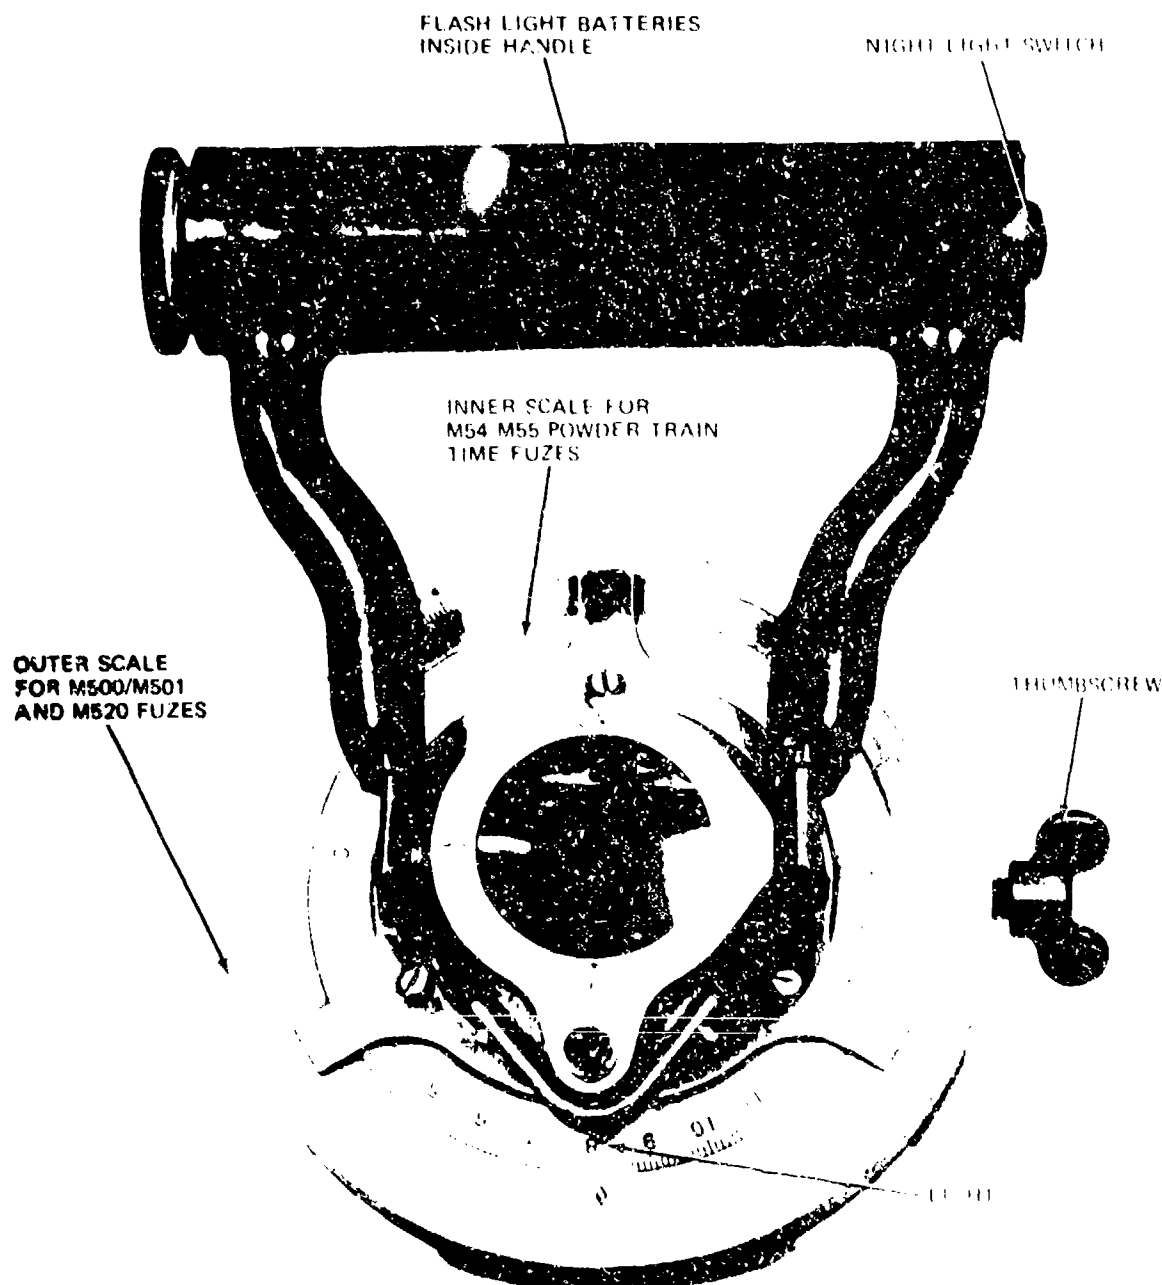

Figure 11-18. Fuze setter M26.
e. *Setting the M501 MTSQ fuze.* The M501 MTSQ fuze can be set to the closest 1/10 second with the M26 precision fuze setter (fig 11-18) or to